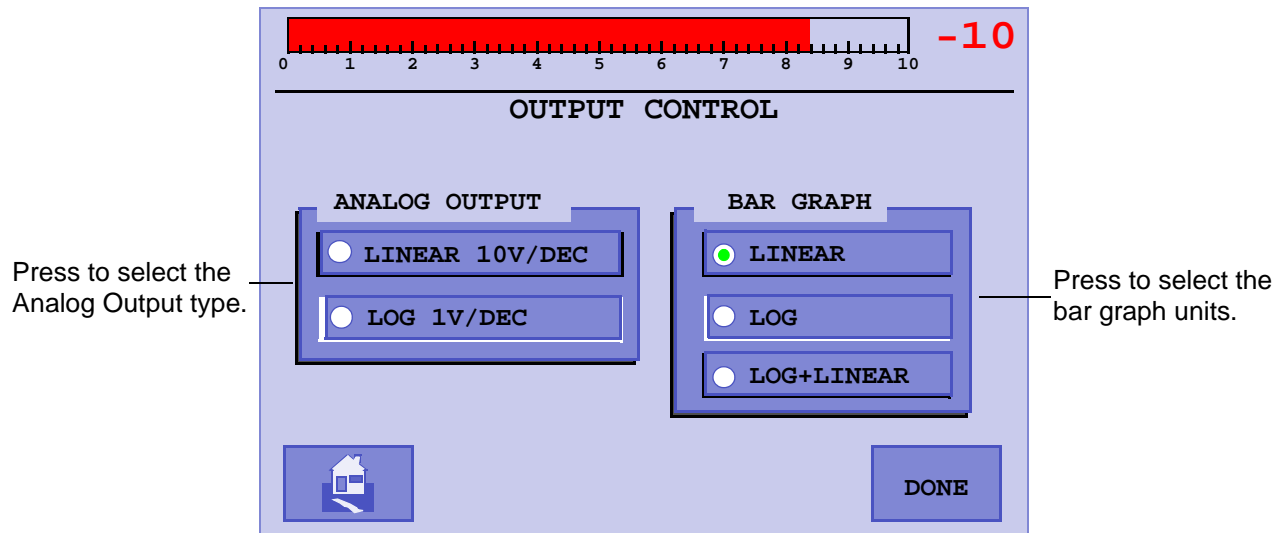

Figure 3-8 Output Control
- Press **Output Control** and the Output Control screen appears (Figure 3-8).